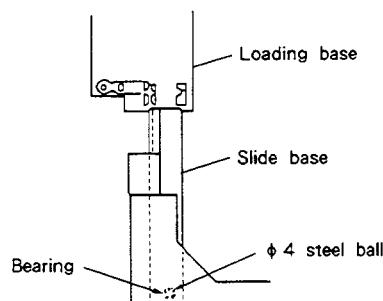

Fig. 9-9
<p>Re-mount the disc tray according to the following procedure when the grating adjustment is complete.</p> <ol style="list-style-type: none"> <li>1. Remove the disc and the spacer.</li> <li>2. While lifting the clamp holder [marked ⑧ in Fig. 9-4] with the right hand, hold the tray in the left hand as indicated by ⑨ and slide the slide base into the hard resin fittings on the loading base as shown in Fig. 9-9 to reinsert the disc tray.</li> <li>At this time, be sure to hold the steel ball in place with the index finger of the left hand. Also, be careful that the front panel is not damaged by the slide base and steel ball's bearing (in the slide base) coming into contact with the panel.</li> <li>3. Insert the slide base so that it fits into the two hard resin fittings at the rear of the loading base (see Fig. 9-10).</li> <li>4. Insert the tray tightly.</li> </ol>